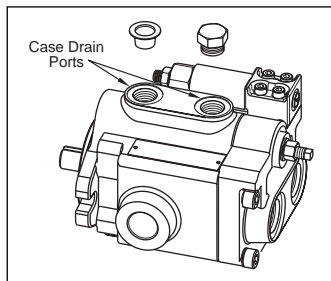

Figure 4
1. Drain pump body (1) via Case Drain Ports. (Figure 4)
3. Remove four compensator screws (71) and then remove remove compensator (28) and O-rings (32).